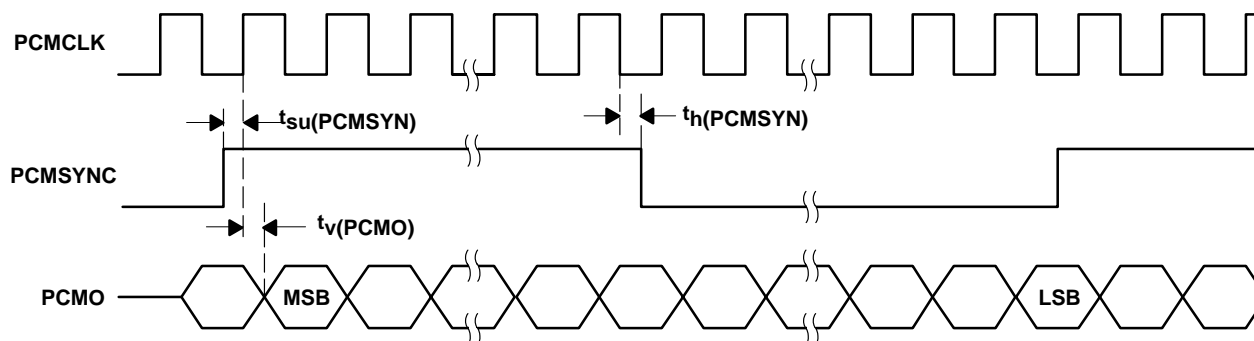

Figure 5. Transmit Timing Diagram, 128 kHz
**transmit (128-kHz CLK) (see Figure 5)**